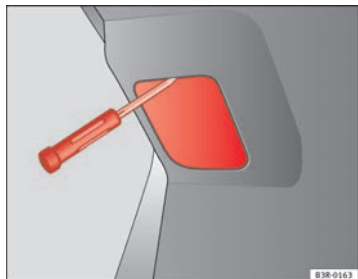

Fig. 219 Remove the cover from the tailgate
- Insert the screwdriver into the opening in the cover from the top ⇒ fig. 219 and detach the cover.